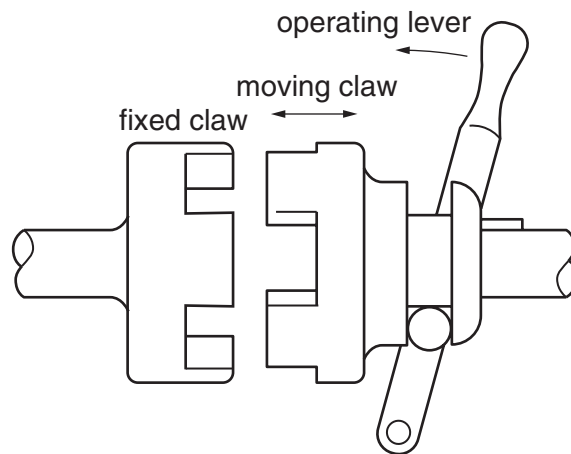

Fig. 8
- (e) Fig. 8 shows a clutch as used in a motor lawnmower.